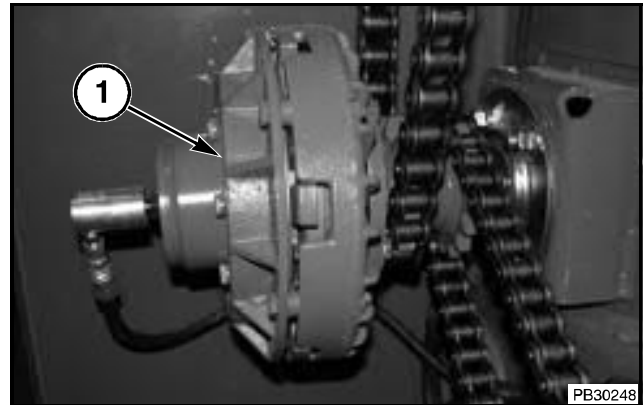

FIG. 1
FIG. 1: The main drive clutch (1) is spring actuated and hydraulically released. The main drive clutch disengages the pickup, stuffer, upper and lower drive rolls, and starting roll when the tailgate opens.